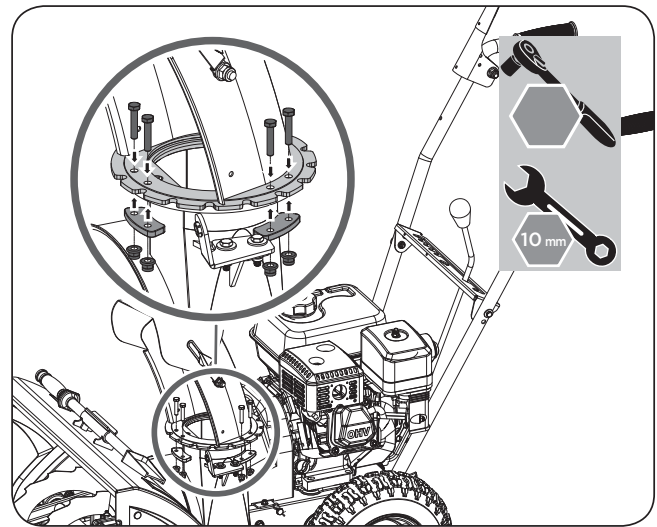

Figure 7c
3. Secure the three flange keepers to the bottom of the chute crank flange by sliding the bolts through the chute base holes, sliding the keepers up from the bottom, then securing them with the included nuts. (See Figure 7c)